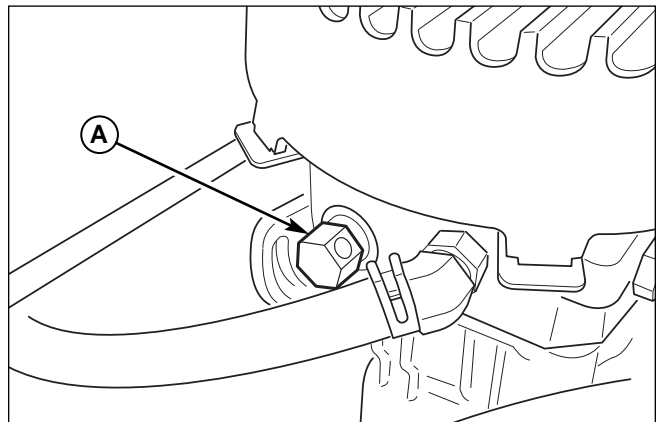

Figure 2. Hydraulic System By-Pass
3. To disengage the pumps (free-wheel position), turn the hydraulic release valves (A, Figure 2) located on the pumps **COUNTER-CLOCKWISE** a maximum of 2 full turns.